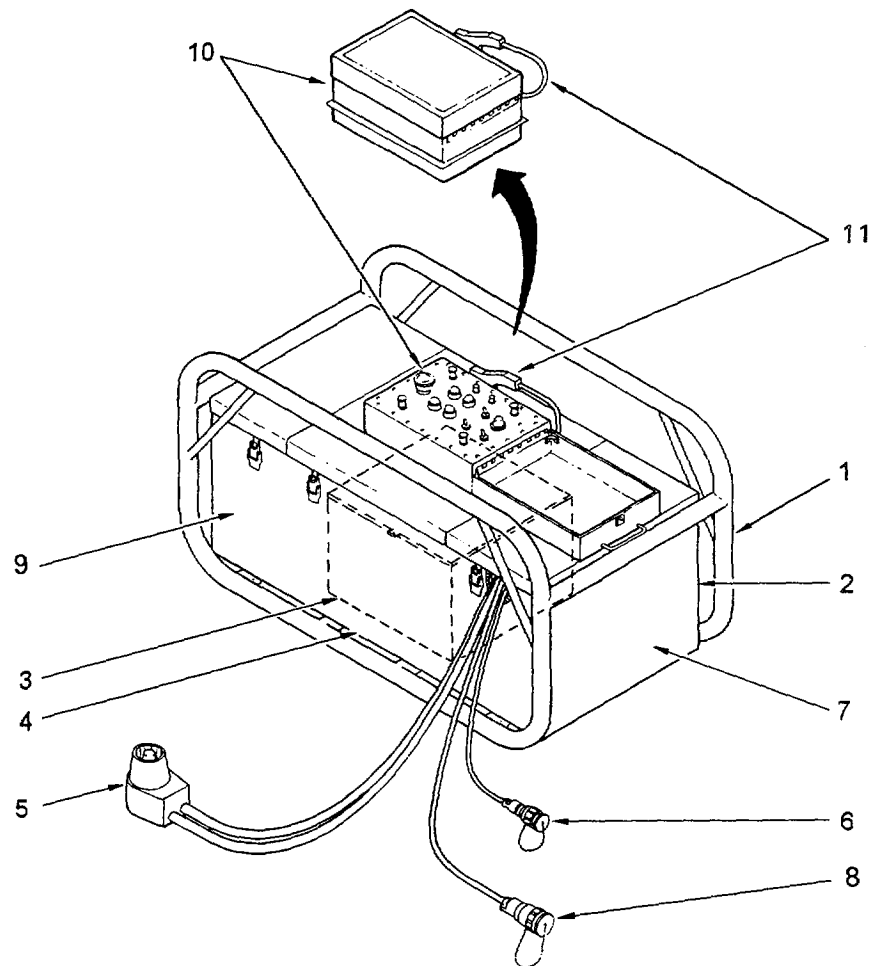

Figure 1-4. Accessory Module
1.9.2 Accessory Module. (Refer to figure 1-4.)